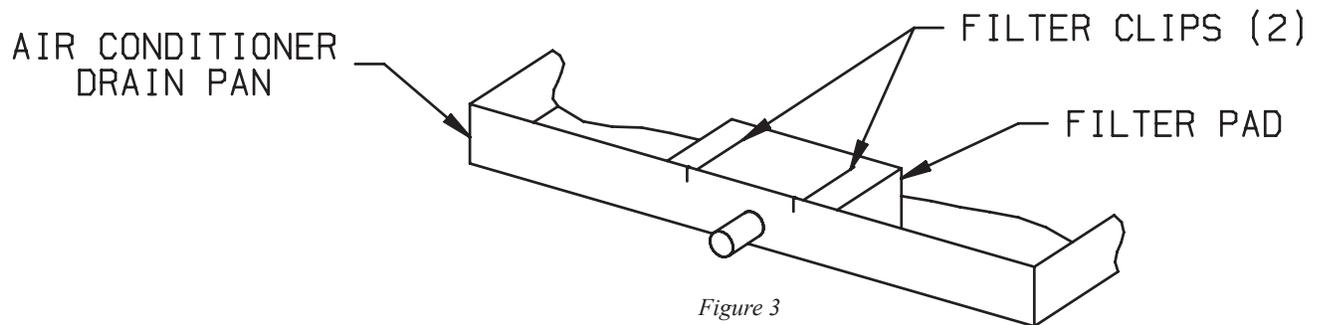

Figure 3
- A. The elevator air conditioner should first be installed following the instructions provided with the unit. The air conditioner must be installed at least 5" (12.7 cm) higher than the mounting surface for the condensate evaporator to allow for proper drainage (See Figure 3).